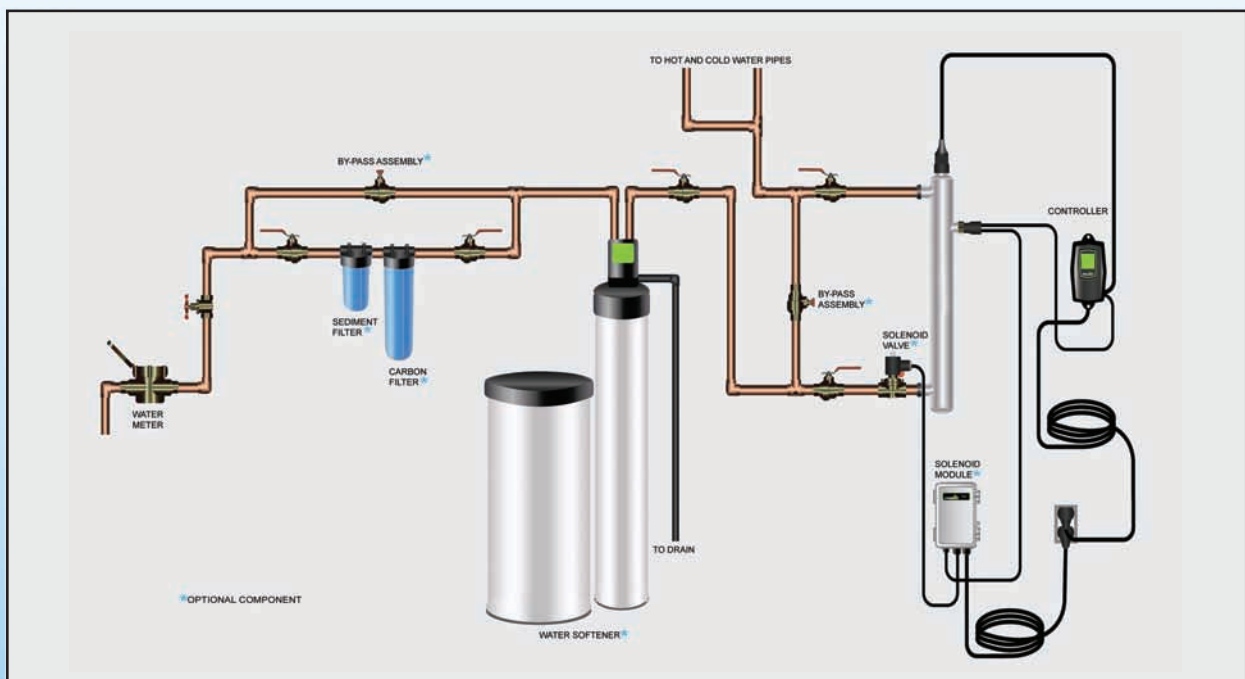

Figure 2. Example of an installation
Step 1: The UV disinfection system should always be the last piece of treatment before the water branches off to the hot and cold water lines if the intent is for Point of Entry (POE) (see figure 2). If the intent for the UV system is for Point of Use (POU) the system should be the final step before the drinking tap.
Step 13: The controller can now be mounted on the wall. On board mounted units the controller is already in the correct position. The controller should always be above or beside the unit to ensure that no moisture can deposit on any of the connections (see Figure 2.). Always mount the controller vertically. For safety purposes the controller should be connected to a ground fault circuit interrupter (GFCI) (also known as a ground fault interrupter (GFI)).